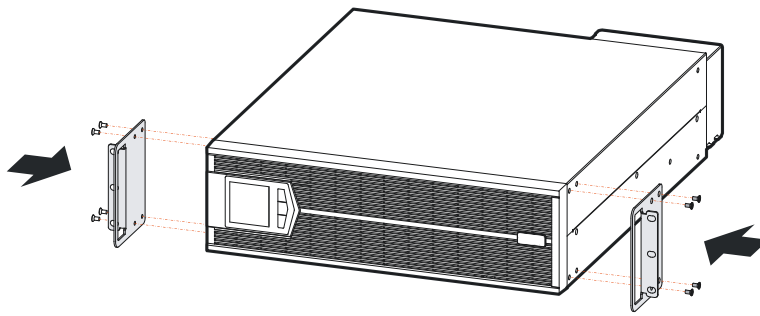

Figure3-9 Install angle iron
- Step 1 Fasten the two angle irons onto the two sides of the UPS by 4 sunk screws M4×8, as shown in Figure3-9.